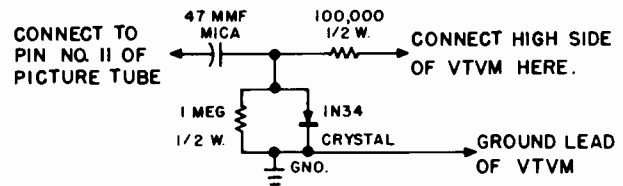

Fig. 616A. Test Circuit for Trap Adjustment
3. Test circuit shown in Fig. 616A.
1. Disconnect the 1N64 video detector diode from terminal (F) in the top of T-101. CAUTION - Crystal diodes are very easily damaged by excessive heat. Hold the lead between the diode and the terminal with a pair of pliers to help dissipate heat when removing the solder connection to terminal (F).
2. Connect the hot lead from the signal generator to terminal (F) from which the diode was disconnected. A 3300 ohm resistor should be connected in series with the generator lead and terminal (F). Set the generator to 4.5 MC.
3. Connect the detector circuit shown in Fig. 616A. to pin 11 (yellow wire) of the picture tube.
6. Remove the detector circuit and connect the VTVM to terminal (G) (V-110 plate pin 2).
8. Connect the VTVM to test terminal (H) shown in the schematic diagram. Adjust the secondary of T-102 (top core) at 4.5 MC for the zero reading which occurs between the positive and negative peaks. If the zero reading occurs at more than one setting, use the position nearest the top limit of the core.